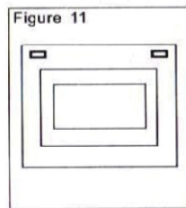

Figure 11
(3) Set the feet into the openholes at the back of the organism(shown in figure11).